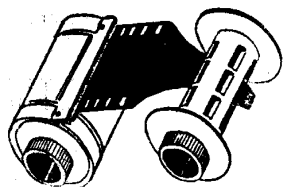

Figure 7
5.4.2. Preparation of a cartridges with film. Take a loaded cartridge and cut film edge, so that it can be inserted into the slot of spool of the take-up cartridge (fig. 7). Take the spool from the take-up cartridge and orient it like the feeding spool. Fix the film in the take-up spool and assemble take-up cartridge.